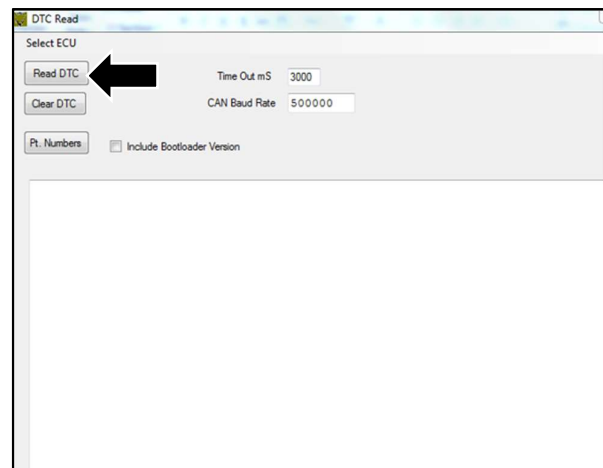

Figure 6
9. In the "DTC Read" window select "Read DTC". (refer to Figure 6).